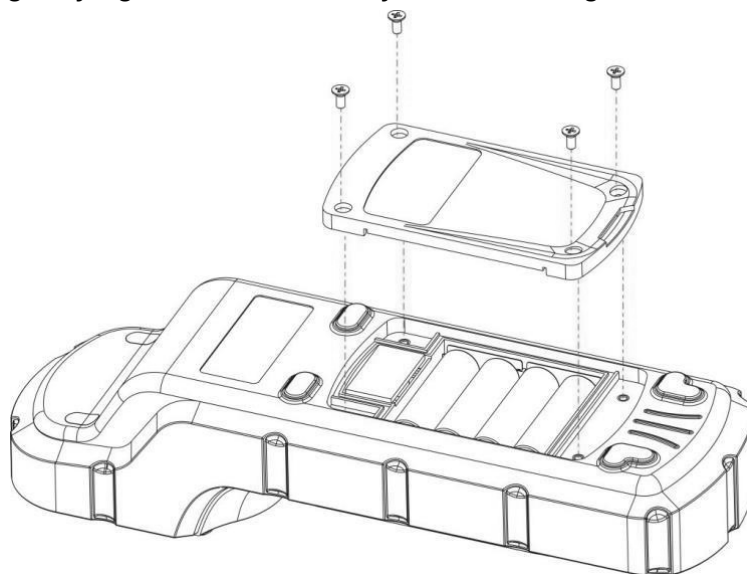

Figure 1 Replace Batteries
The AP50MM battery compartment, shown in Figure 1, is on the back side of the instrument. Insert a small pad underneath the screen area to make the back-surface level when the instrument is turned upside down. Install batteries as followings:
2. Insert four batteries into the battery holder as shown in Figure 1. Make sure the positive battery polarity marker (+) is aligned with the positive marker (+) on the battery holder.